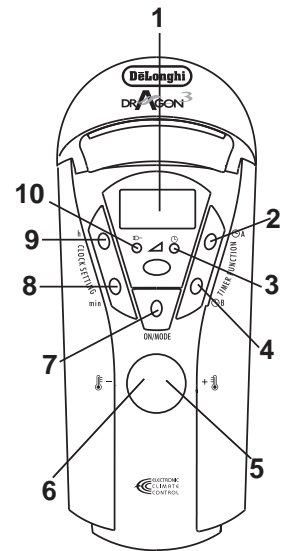

fig. 5
- Set the time you want the appliance to go off using the "hour button" (9) and "min button" (8), then confirm the off time by pressing the "Timer Function **A**" (2) button again (fig.5).
- At this point, the word "AUTO" appears at the top of the display and the "TIMER ON" (3) indicator light comes on to indicate that the appliance is ready to operate at the programmed time maintaining the preset comfort temperature.
- To set the program **B** press "Timer function **B**" (4) button and follow the same procedure as described for the program **A**.
- Use the "⌆+" (6) or "⌆-" (5) buttons to set the desired comfort temperature, as described above.